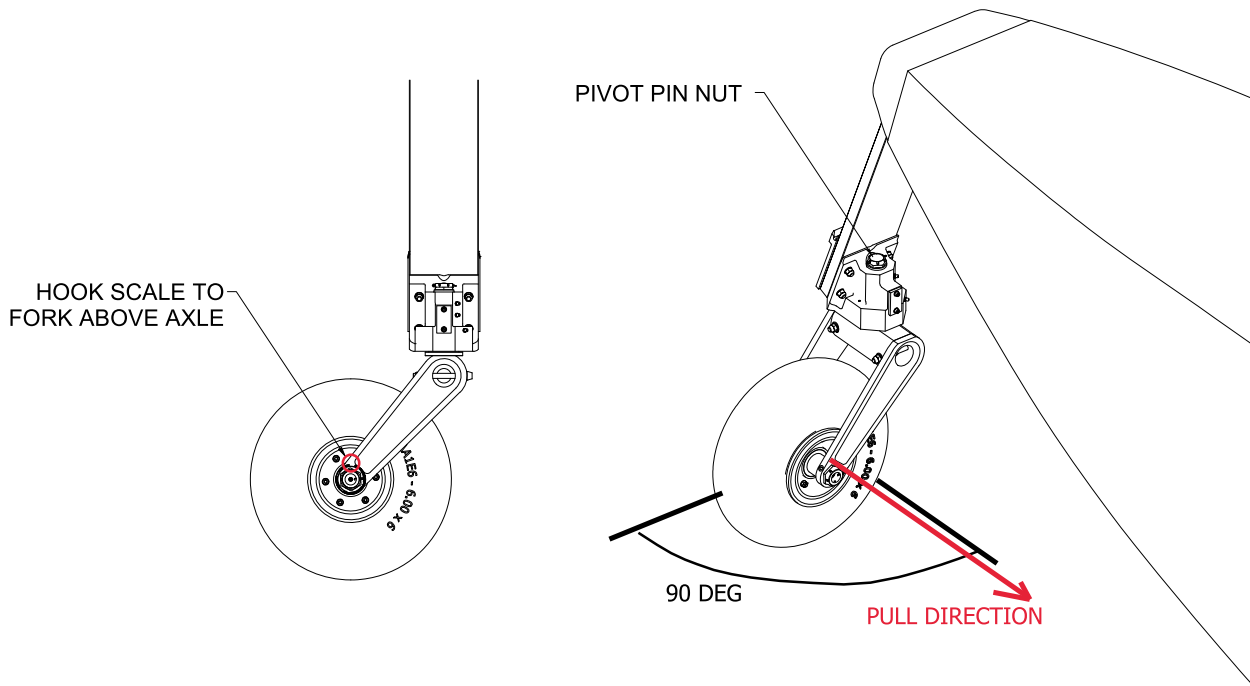

FIGURE 2.12 NOSE GEAR PIVOT RESISTANCE TEST
2. Check and adjust setting of pivot pin retaining nut atop the pivot block assembly (see Figure 2.12). This is pre-set and marked during factory assembly, but on-aircraft conditions or a working-in period can have an effect:
- b. If shimmy continues, add washers as needed between the centering spring and retainer. Refer to parts manual for exploded view of pivot block assembly 1012007. Added washers are to be of the spec NAS1149F08XXP with a maximum recommended stackup of 0.095". As examples, this could be: (1) NAS1149F0832P, (1) NAS1149F0863P, or both combined.